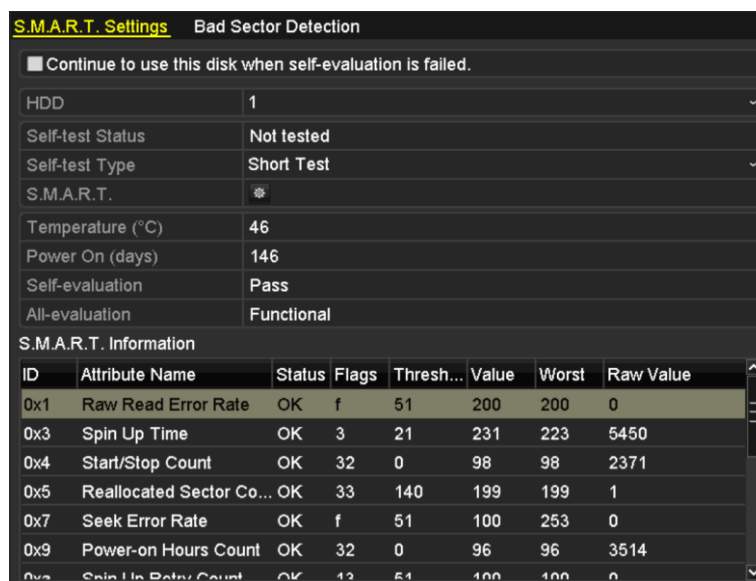

Figure 10-8 S.M.A.R.T Settings Interface
Step 2 Select the HDD to view its S.M.A.R.T information list, as shown in Figure 10-8.